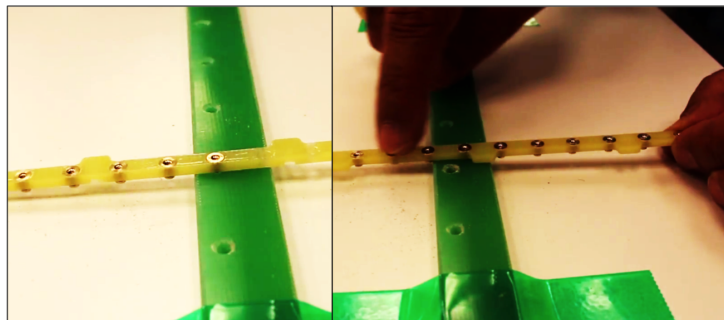

Figure 35: Checking the flatness of the frame.
Step 4: Follow the same procedure for the entire frame, and for all the other pieces of 3 mm frames. Check with the finger that the heads of the inserts fit flush with the surface of the frame (Fig. 35).